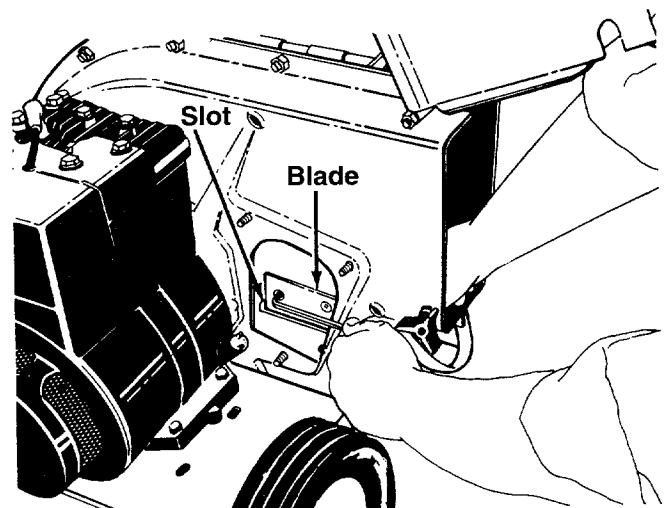

FIGURE 15.
4. Rotate the impeller assembly by hand until you locate one of the chipper blades in the chipper chute opening. Remove the blade, using a 3/16" allen wrench on the outside of the blade and 1/2" wrench on the impeller assembly (inside the housing). See figure 15.
Make certain blades are reassembled with the sharp edge facing the direction shown in figure 15 (sharp edge is assembled toward the slotted opening in the impeller assembly).